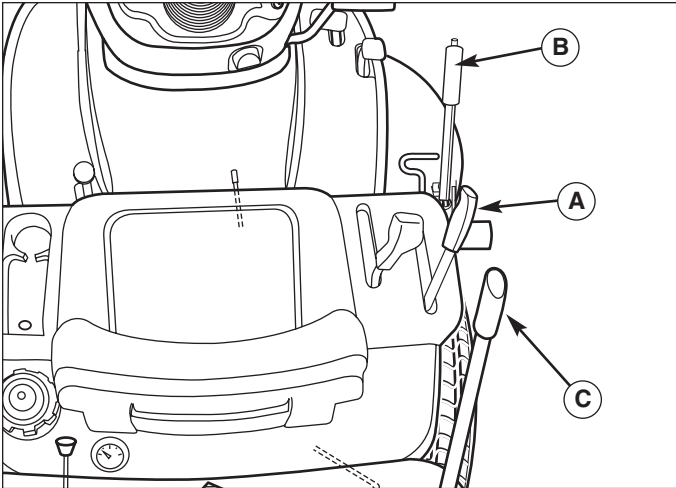

Figure 8. Raising & Lowering Mower
2. Place mower in the lowest cutting position using the mower height adjuster (B, Figure 8).
3. Place the mower lift lever (A, Figure 8) in the lowered position.
3. Place mower height adjuster (B, Figure 8) in the lowest cutting position. Place the mower lift lever (A) in the lowest position. Slide mower deck under right side of tractor so that mower hitch is aligned with front tractor hitch.